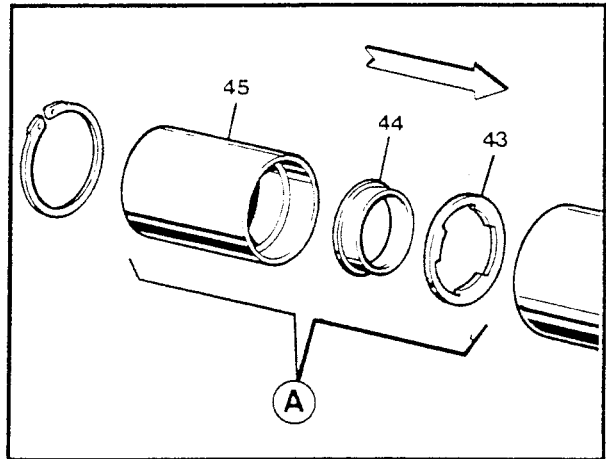

Figure 5-23. Damper Valve Unit
2. See Figure 5-23. After replacing the valve unit and cleaning the inside of the tube, assemble them in the sequence shown.